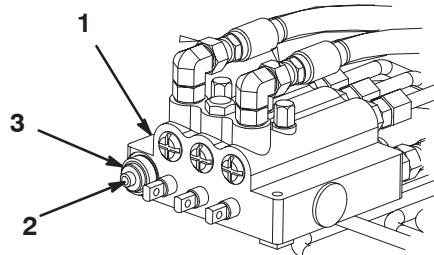

Figure 16
- Remove the jam nut securing the plug assembly in the lift control valve (Fig. 16) Remove the plug and the washers from the lift control valve. Note the order of the components during removal.